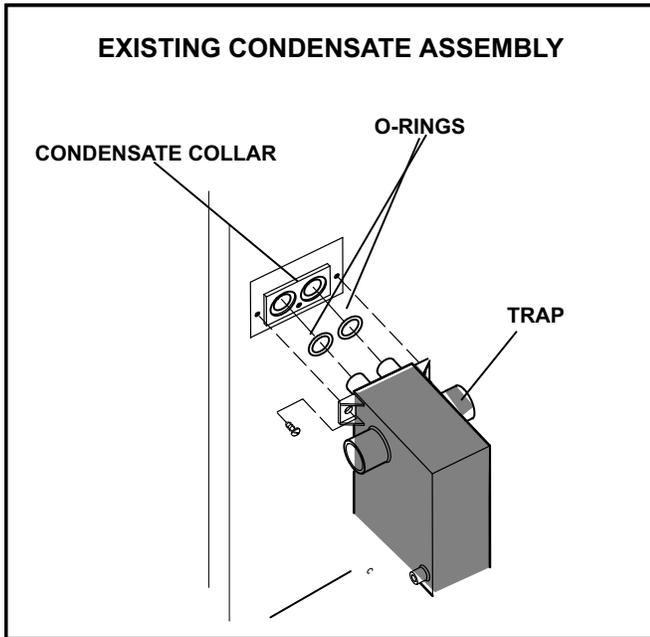

FIGURE 2
- 3 - Remove the condensate collar and trap from the furnace and discard them. See figure 2. Remove evaporator coil drain line if necessary.